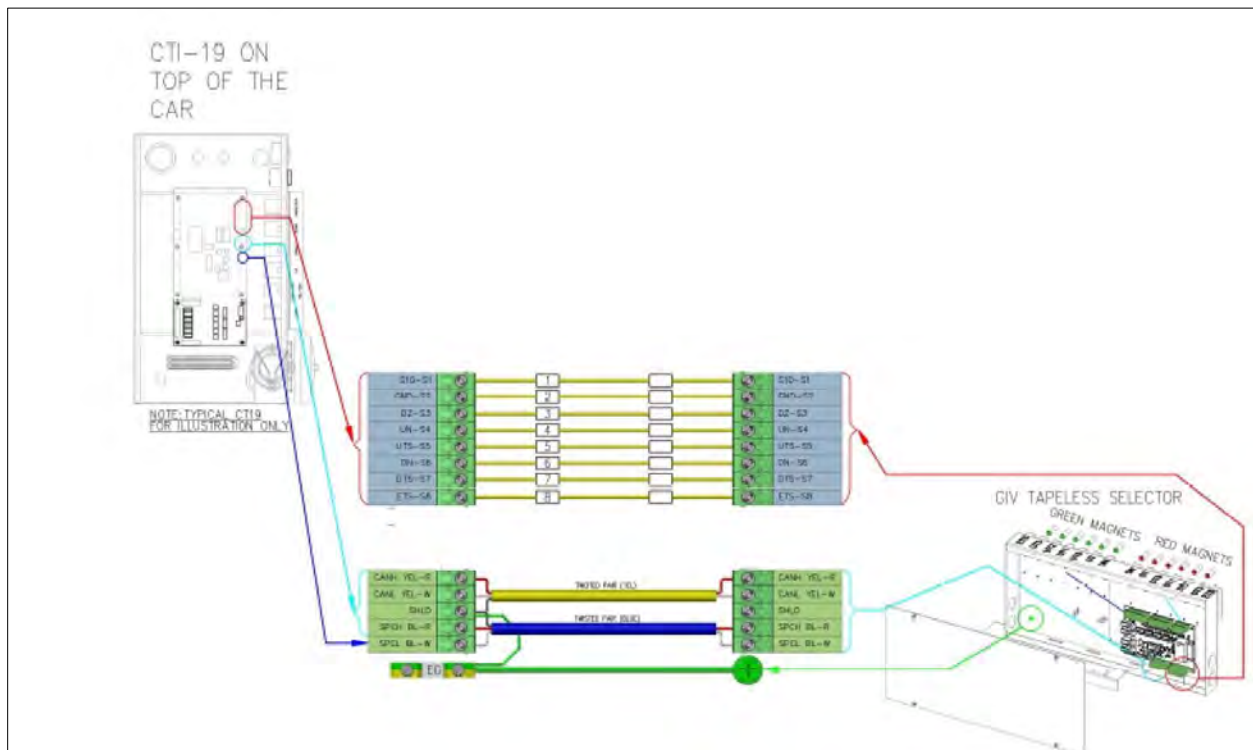

Figure 2-27: Tapeless Selector 7 Wiring
- Figure 2-27 shows typical wiring connections for the Tapeless Selector 7.